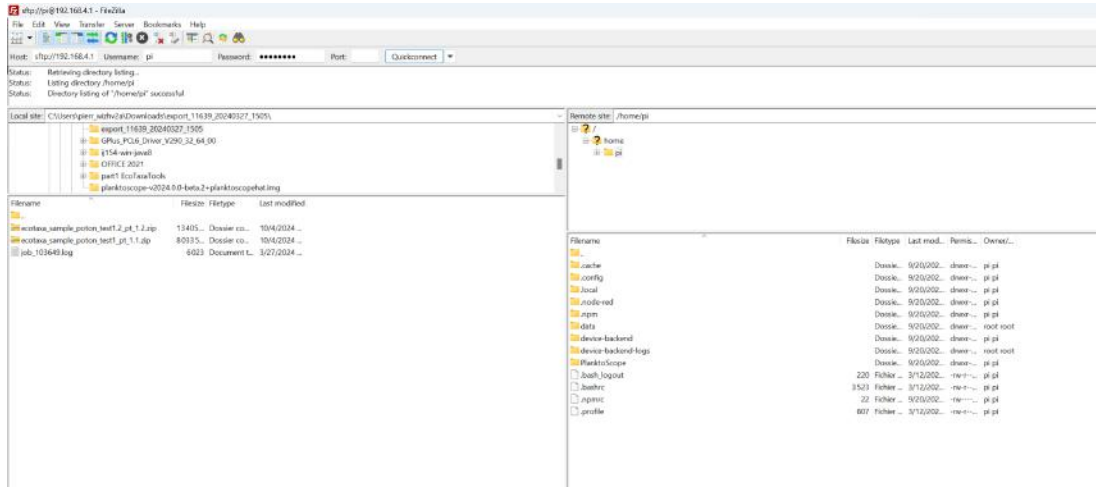

Figure 2: Interface of FileZilla. Personal files are on the left, files of the ftp host are on the right
2. On the bottom panels you have, on the left, the access to what is in your computer, and on the right, the access to what is in the PlanktoScope (Fig.2). Click and slide to transfer data in between both.